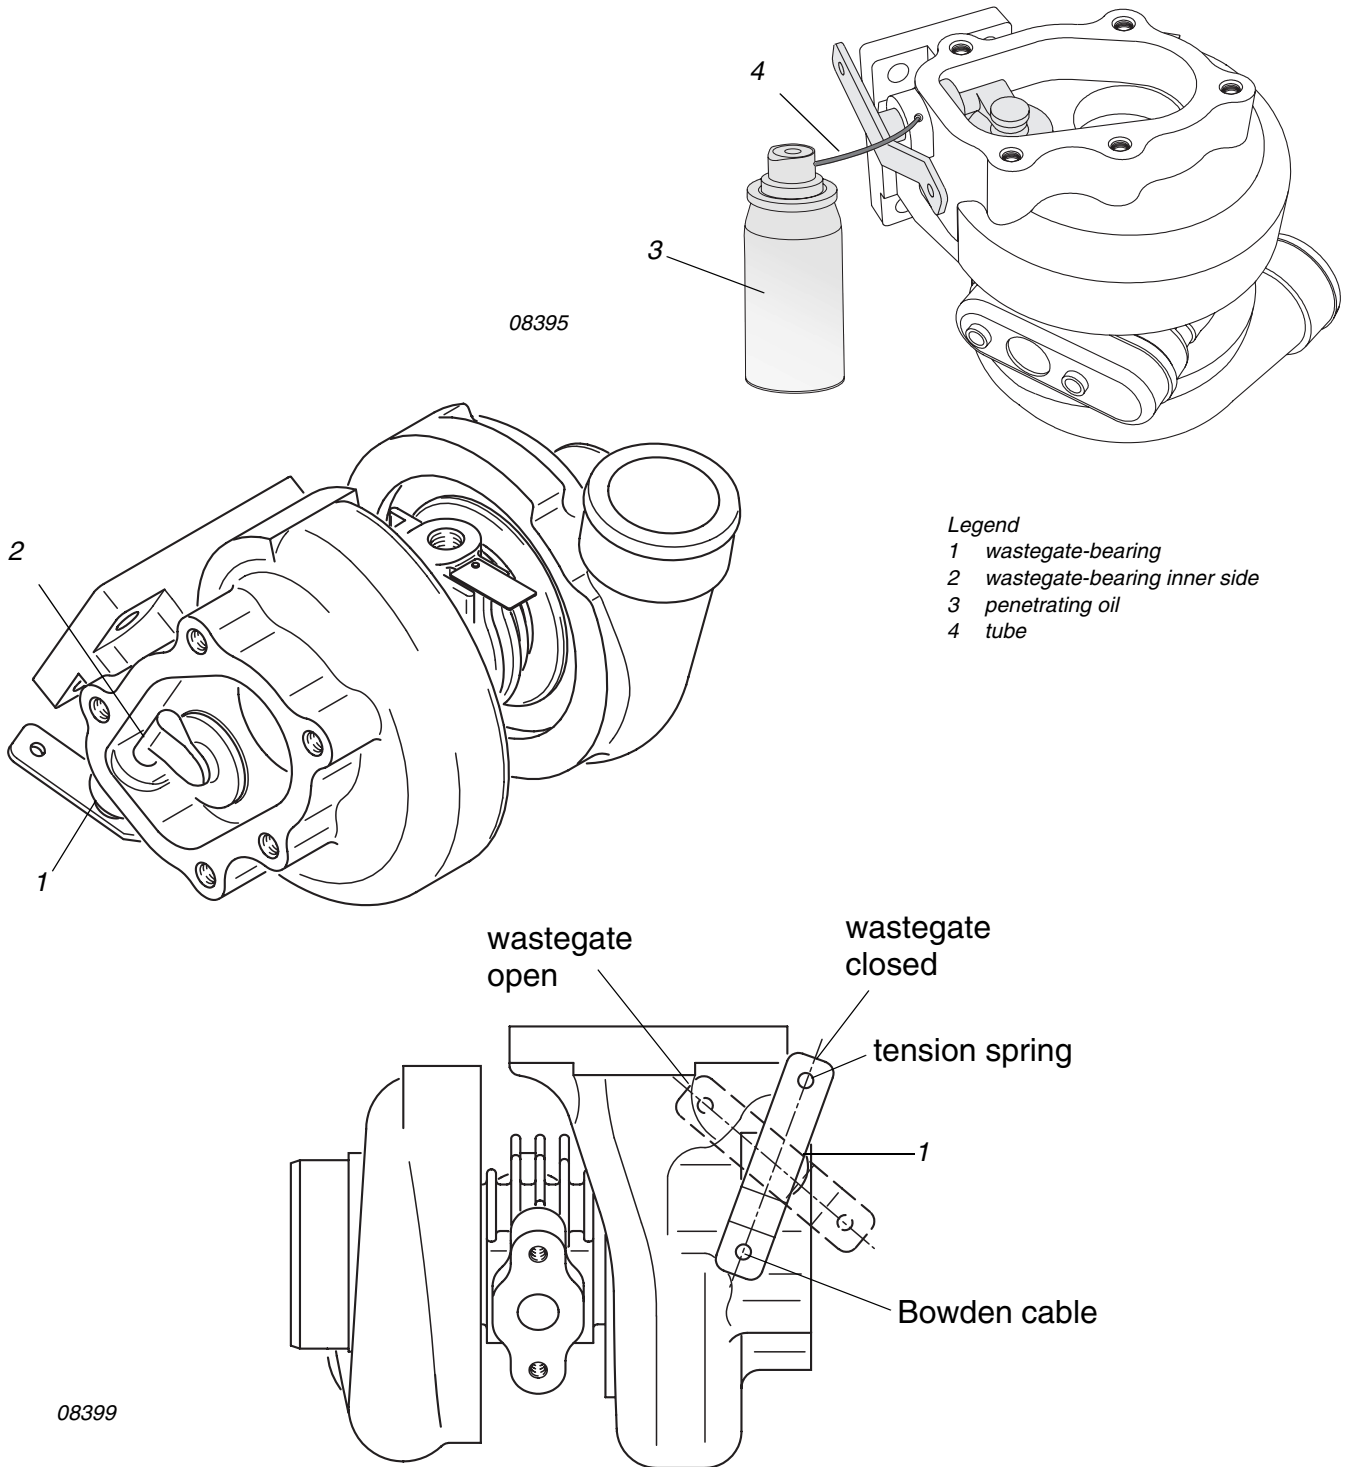

Fig. 1
(see fig. 1)
3. Observe wastegate should move from the closed position to fully open and then return to the fully closed position. This movement should take about 5 seconds to complete. Verify if at self-test the positions „wastegate open“ and „wastegate closed“ will be reached (see fig. 1).